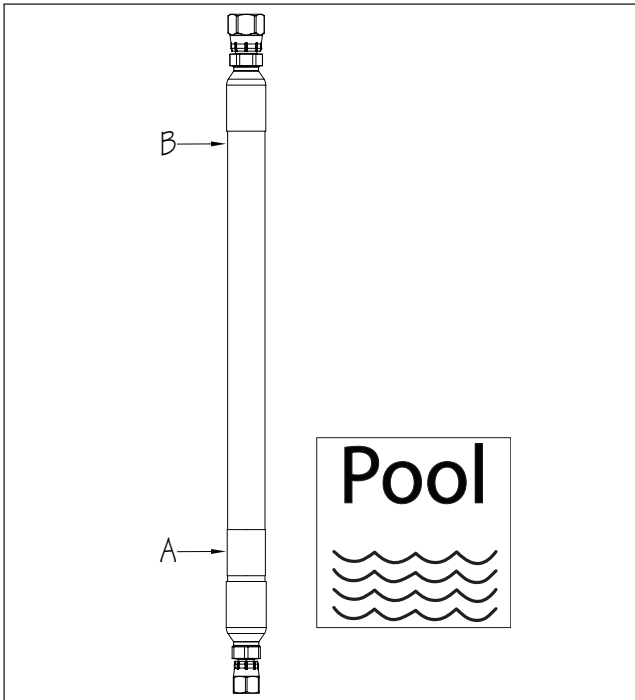

Fig. 6
Each Hydraulic Run Hose has a white label (A) that reads "Pool" on the end that attaches to the Fastlane Pro Current Unit in the pool (Fig. 6).